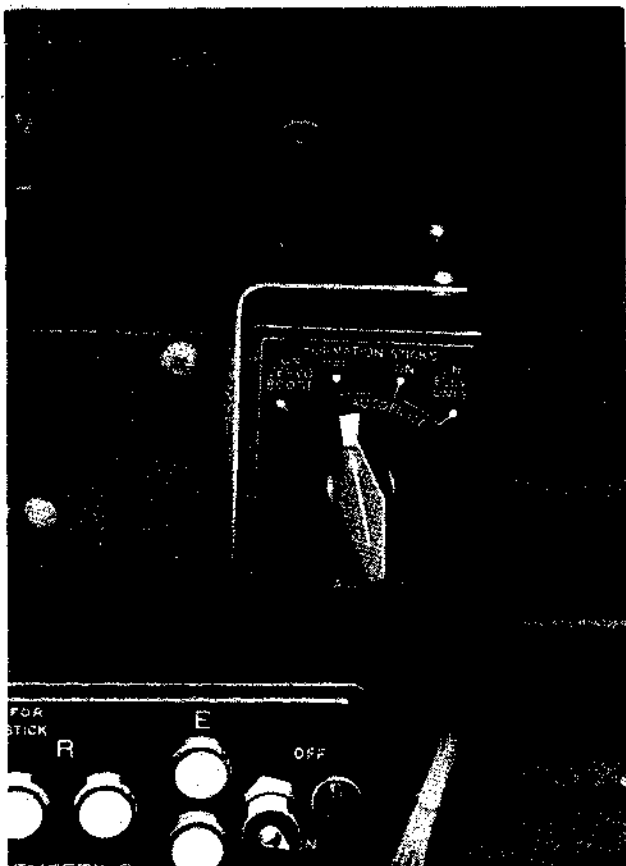

Figure 25B—Function Selector
(5) **ENGAGE THE FORMATION STICK.**—Turn the formation stick function selector (figure 25B) to "ON SERVO BOOST," "ON," or "ON" ELEV. ONLY," depending upon the type of operation desired, press the transfer button on the stick to be used, and then maneuver the airplane by moving the stick as explained in the following paragraphs.